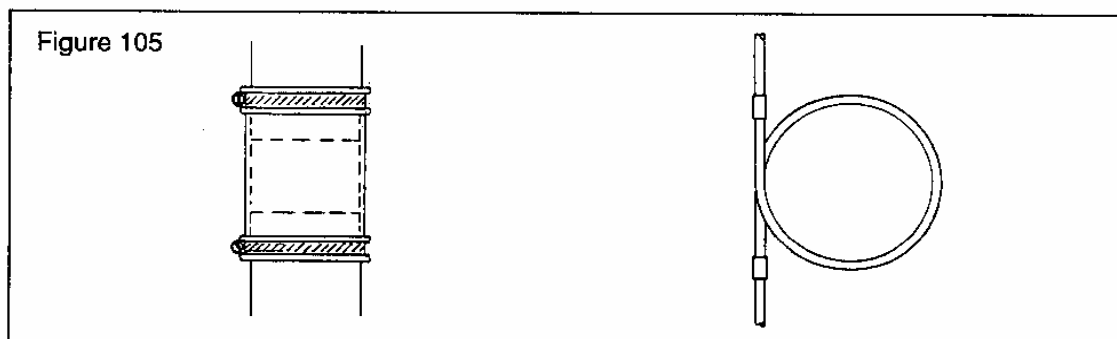

Figure 105. PLUMBING
Hangers will be supplied if a 6x11, (item 2), and 6x12, (item 1), beamed floor is used. The hangers come pre-drilled for nails and screws. Each beam will be pre-cut and lettered. Reference the blueprints for this letter. Reference Figure 105 for plumbing requirements at bathrooms. The 2x6 tongue and groove flooring, as shown in Figure 103, is then installed as per Figure 58.
| Waste Stack Gasket Figure 105 | As required during construction, then check yearly | |